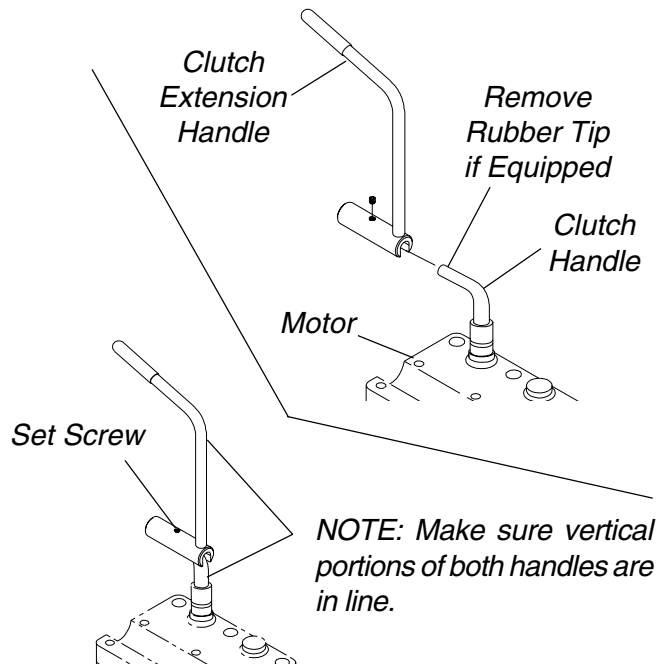

FIGURE 11 - INSTALLING OPTIONAL CLUTCH EXTENSION HANDLES
INSTALLING OPTIONAL CLUTCH EXTENSION HANDLES (FIGURE 11)
2. Position the clutch extension handle by the clutch handle on the motor as shown in **FIGURE 11**.